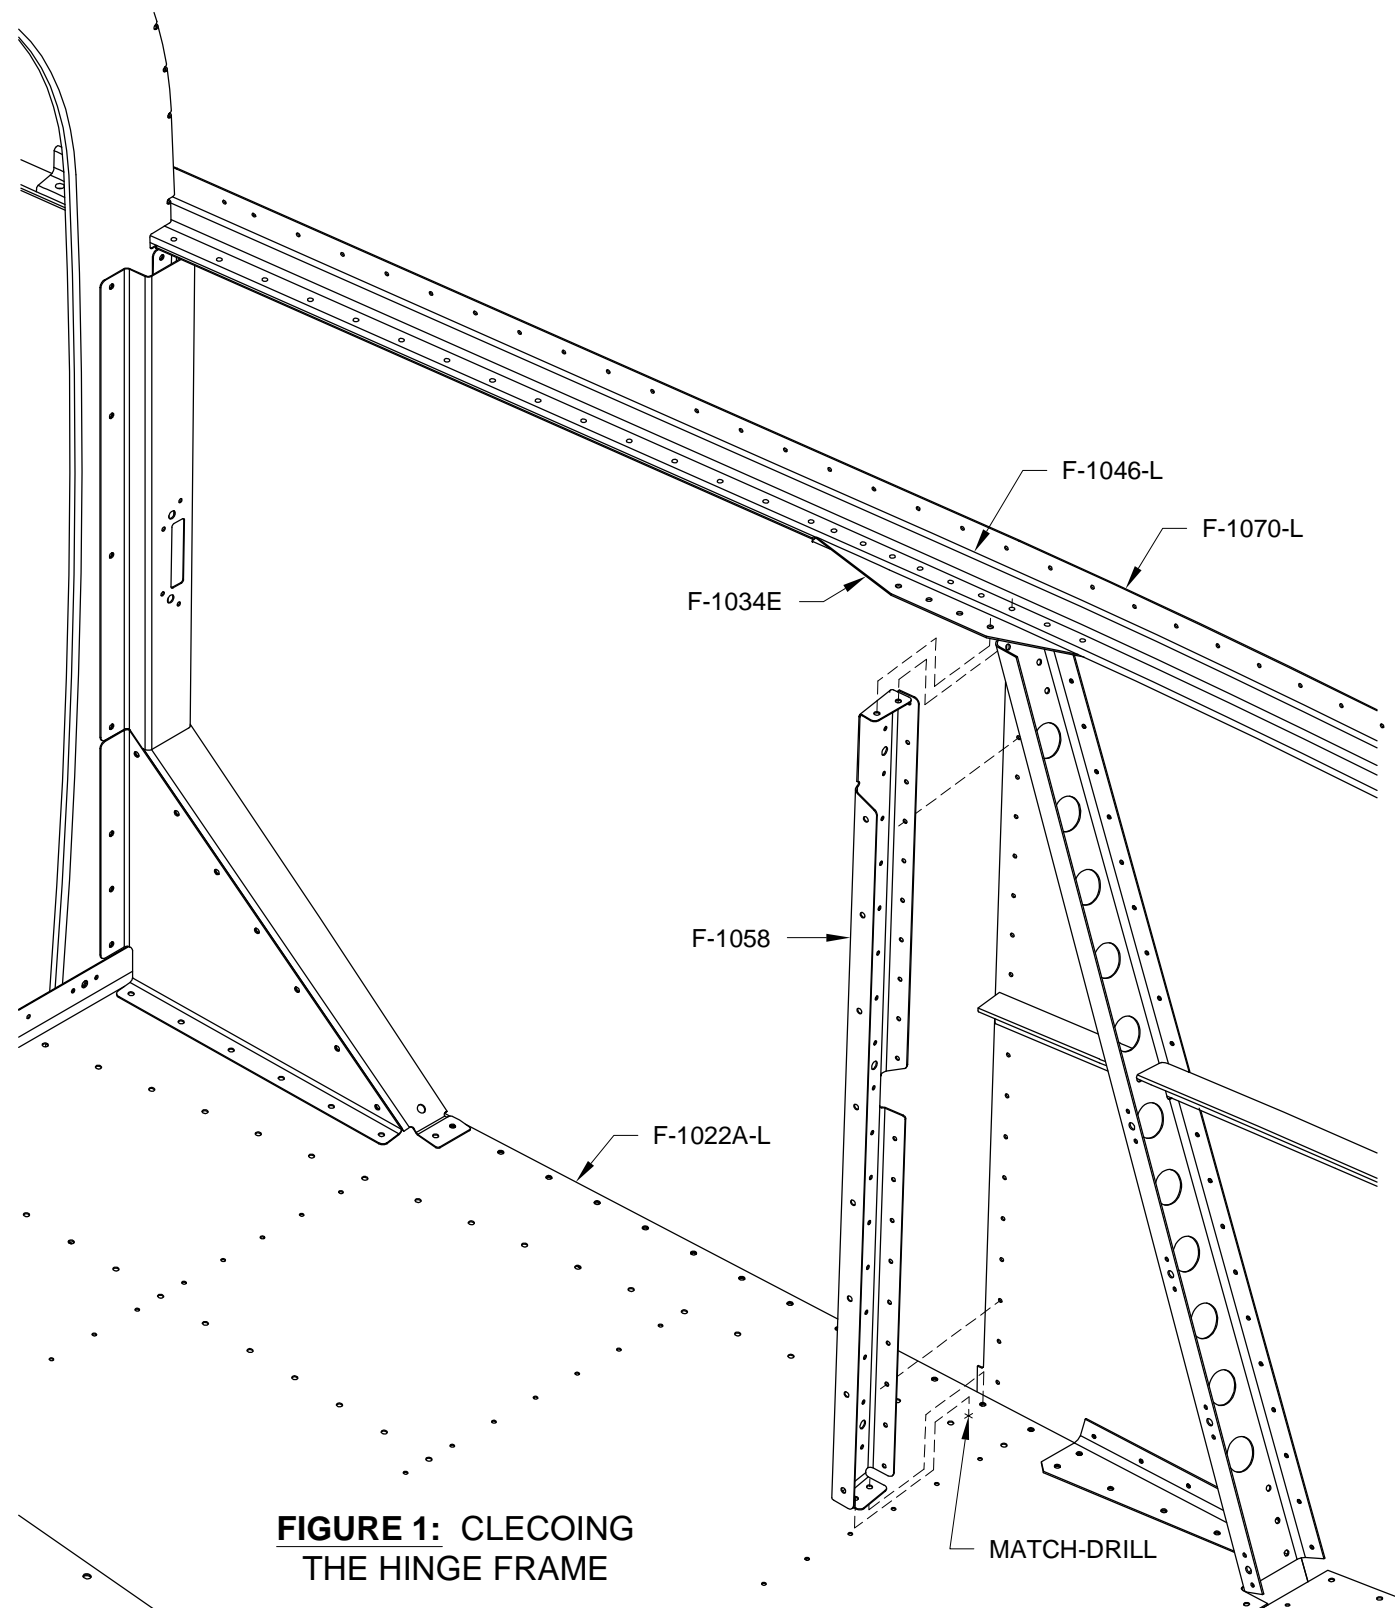

FIGURE 1: CLECOING THE HINGE FRAME
Step 2: As shown in Figure 1, cleco the side flange of the F-1058 Hinge Frame to the F-1070-L Mid Side Skin. Cleco the top flange to the F-1034E Seatback Brace Gusset, the F-1034B Seatback Brace (not shown), and the F-1046-L Mid Fuse Longerons. Cleco the outboard hole in the bottom flange to the F-1022A-L Baggage Floor.